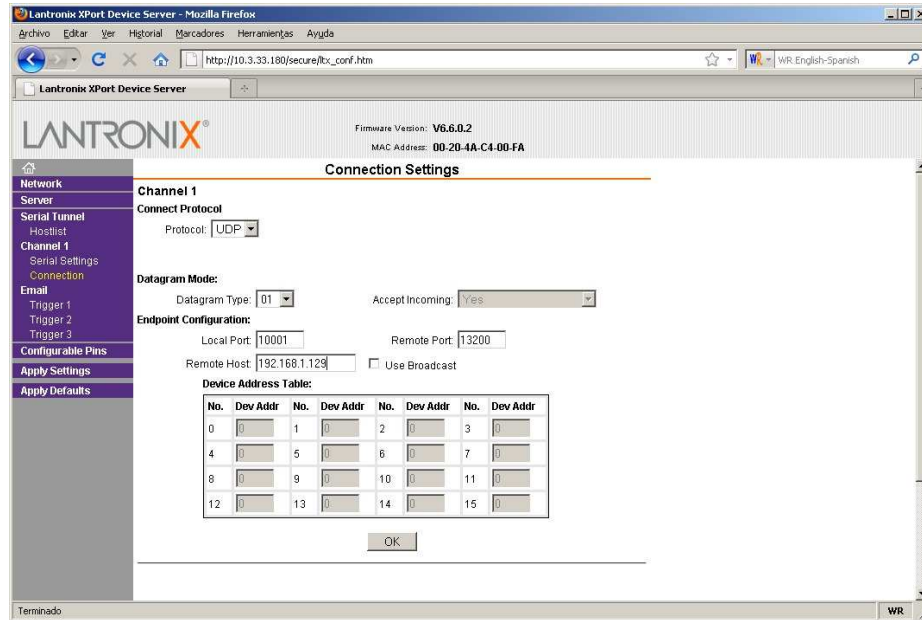

Figure 7.1.1A
6. You can see an example of this configuration in the **figure 7.1.1A**. In this example our server's IP is 192.168.1.129.